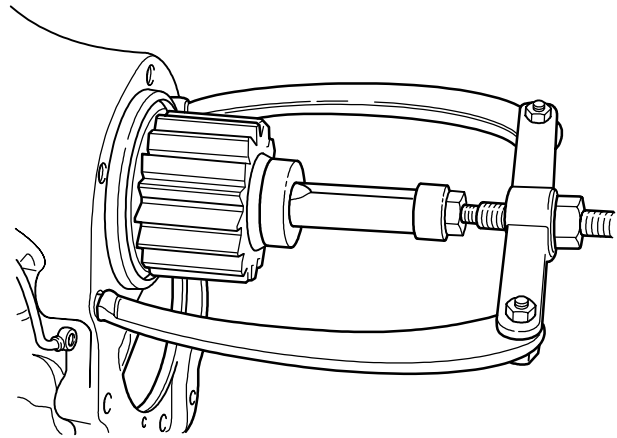

Figure 245 - Half-Shaft Gear - Removal
- t. Remove the half-shaft gear with the puller and extractor (Table 2, Items 25 and 43) (Fig 245).